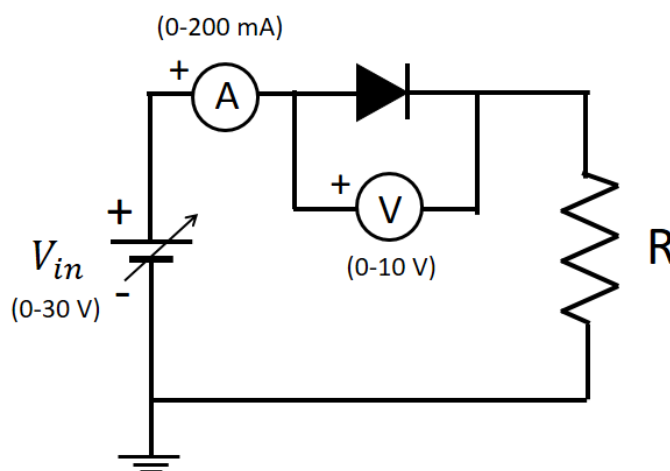

Fig. 4.1: circuit diagram of PN diode
1. Connect the power supply, voltmeter, ammeter with the diode as shown in the Figure 4.1. Use two multimeters, one to measure current through diode and other to measure voltage across diode as shown in the Figure 4.1.